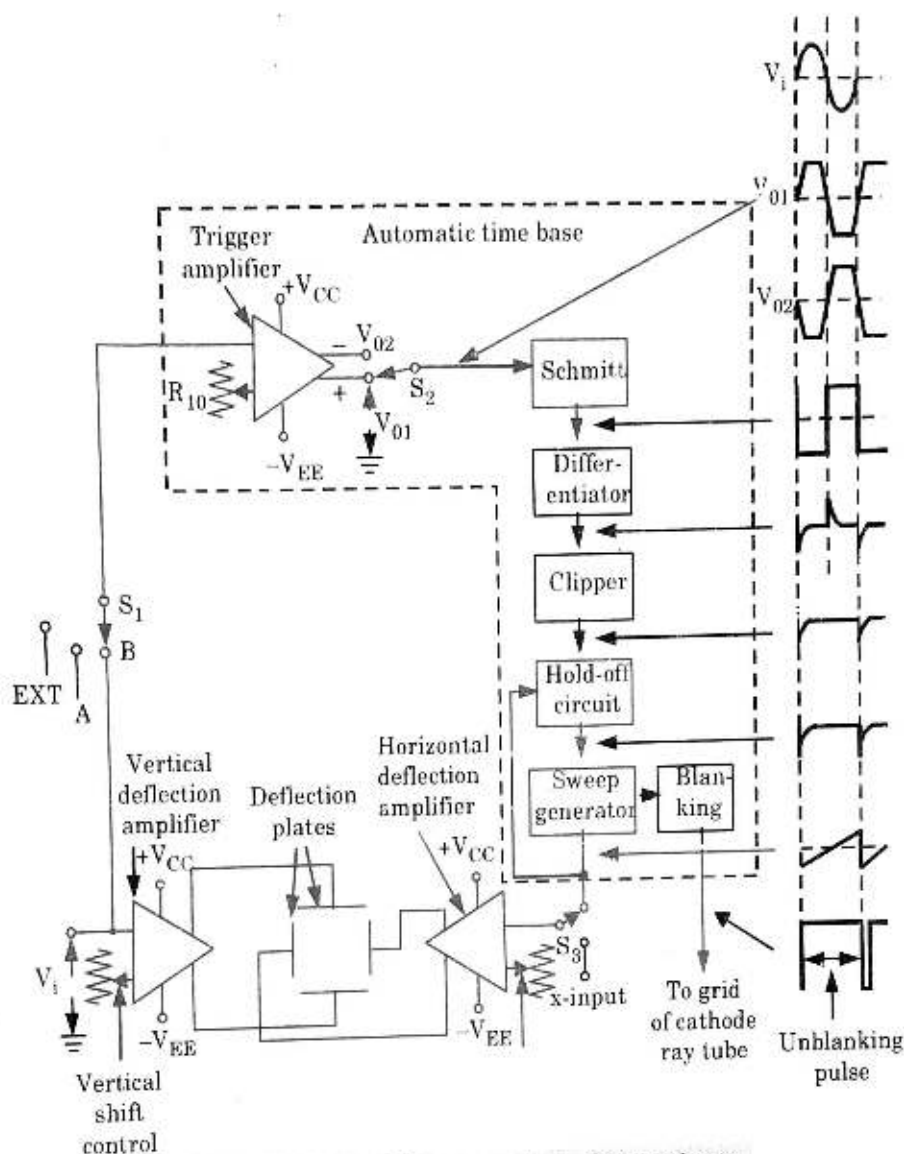

Fig. 4.7.1. Oscilloscope automatic time base.
3. Synchronization is accomplished by means of the sync input to the Schmitt trigger and by the other components of the automatic time base in Fig. 4.7.1.
7. The Schmitt circuit is designed to have upper and lower trigger points. The Schmitt circuit output rapidly goes negative as the input passes the upper trigger point and positive as the input passes the lower trigger point as shown in Fig. 4.7.1.
10. Therefore, the differentiated square wave is a series of positive spikes and negative spikes as shown in Fig. 4.7.1.